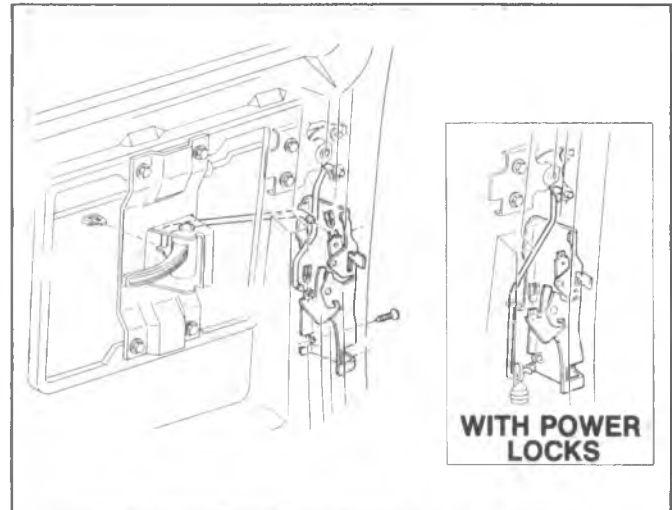

Fig. 2D-47--Lock Assembly and Inside Handle
2. Disconnect control rod from inside handle by removing clip as shown in figure 2D-47.
**Remote Control--Fig. 2D-48****Replacement**